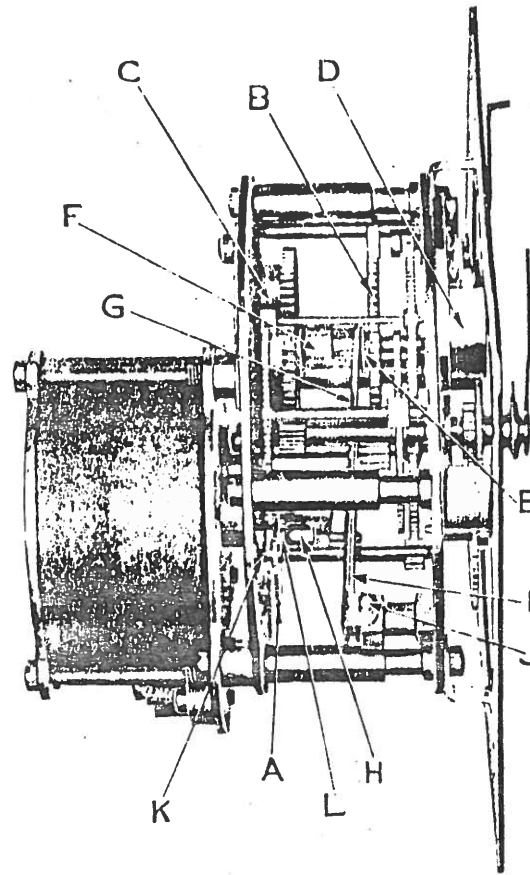

Fig. 3
As shown in Figure 3, the motor pinion engages with the fourth winding wheel (A), which in turn, through a train of wheels, rotates the barrel arbor through the first winding wheel (B). The mainspring is thereby wound up in the barrel (C) and in the usual manner furnishes power to the hands, the escapement (D) regulating the speed at which it unwinds. In order to govern the number of turns to which the mainspring is wound and thereby furnish a constant torque to the escapement, a governing mechanism is used to stop the motor when the mainspring is properly wound. As the first winding wheel revolves it winds the sleeve (E) into the barrel hub (F), causing the governor arm (G) to be pressed toward the back of the clock, and thereby forcing the governor arm screw (H) closer to the fourth winding wheel. By adjusting the position of this screw in the arm it may be made to act as a brake on the fourth winding wheel when the mainspring is wound to any desired number of turns. Stopping the fourth
If necessary for any reason, this can be done by taking off the escapement and then placing the movement face down. Next remove the motor and then take off the barrel bridge, thereby exposing the barrel. Take out the fulcrum pin marked (J) in Figure 3 and lift out the governor arm. The barrel should then be taken out after which the back plate can be taken off. Care should be taken not to lose the small ball bearing (not supplied on some of the earlier clocks) under the back pivot of the fourth winding staff at the point marked (K) in Figure 3. In reassembling the clock, care must be exercised to have all wheels and cams in exactly the same position as when removed.
of the brake stud to the fourth winding wheel, which prevents the motor from winding the spring. On later clocks this has been overcome by putting a spring (H in Figure 3) on the governor arm, thereby pulling it free from the wheel as the sleeve unwinds in the barrel. This trouble can be eliminated by the substitution of a new fourth winding wheel and governor arm, but in ordering such replacement parts the serial number of the clock should always be given.
Cl. L. L. to Run This is not to be confused with motor noise, which is more like a hum or rattle and can only occur on clocks having the ball bearing motor. On any movements over 20,000 serial number developing this squeaking noise it is only necessary to put a drop of Neets-foot oil on the leather pad (I in Figure 3) on the governor arm stud. After the pad has absorbed one drop of oil, put on another small drop and the trouble will be completely remedied as it is simply due to friction between the hard leather and the metal wheel.
Cl. L. L. to Run Most accurate timing can only be obtained when the escapement has the proper motion. This should be between one and one-quarter and one and one-half turns on the balance wheel with an average of one and three-eighths turns being the most desirable. Improper motion of the escapement may be due to lack of lubrication, as discussed in the paragraph on the escapement, or to the fact that the mainspring is not wound to the proper number of turns. Regulation of the wind of the mainspring is accomplished by adjustment of the governor arm screw, as shown at (F) in Figure 3. When screwed further into the governor arm, the sleeve (E) must turn further into the barrel hub (D) before the brake pad on the tip of the governor screw makes contact with the fourth winding wheel to block the motor. This simply means that the mainspring is accordingly wound more tightly. If the escapement overbanks, the mainspring tension can be reduced by turning out the governor arm screw, which results in blocking the motor before the mainspring has reached the previous point of tension.